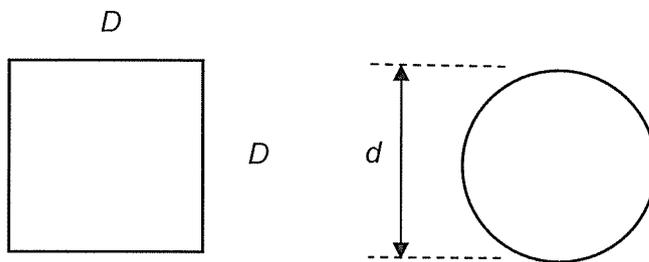

Fig. 1 Two pipes, one of square, and one with a circular cross section.
- (2 pnt) c). An incompressible fluid with density ρ is flowing through a square pipe with sides D and a length L , shown in cross section in figure 1 on the left. The mass flow rate is W , and the pipe is installed horizontally. Now we like to replace this pipe by a circular pipe with diameter d and the same tube length L , see figure 1. The flow in the pipes is turbulent, developed, and can be described with a friction factor f given by the following Reynolds number dependency: $f = \frac{1}{10} Re^{-1/4}$. The hydraulic radius is defined as, $R_h = \frac{\text{pipe cross section}}{\text{wetted perimeter}}$, and the Reynolds number is defined by $Re = \frac{4R_h \langle v \rangle \rho}{\mu}$. Here $\langle v \rangle$ is the average velocity in the pipe, and μ is the dynamic viscosity. State and use the correct balance equation to find an expression for the pressure drop over both types of pipes. Find the ratio d/D in case the mass flow rates through both systems are equal at the same pressure difference.